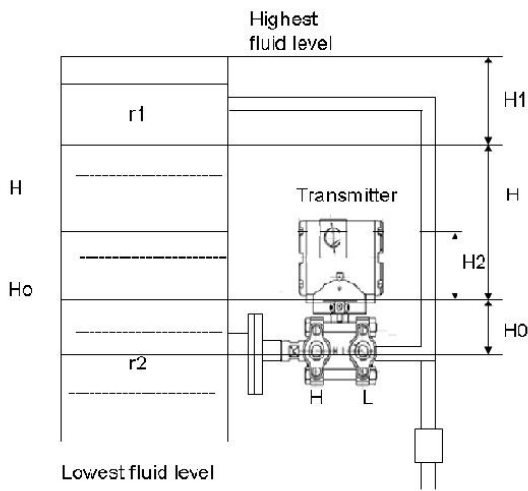

Fig : 1.4
- c. Double-in-line flange transmitter, as indicated in fig. 1.4